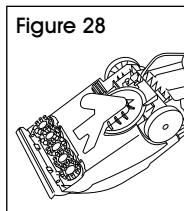

Figure 28
1. Press handle release pedal to lower handle. Turn cleaner over so bottom is facing up. (See Figure 28)